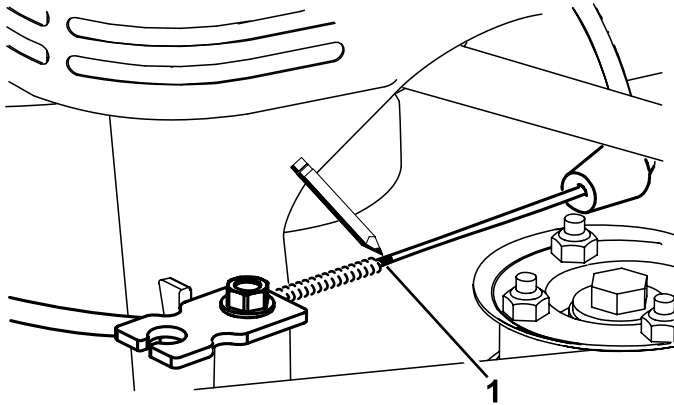
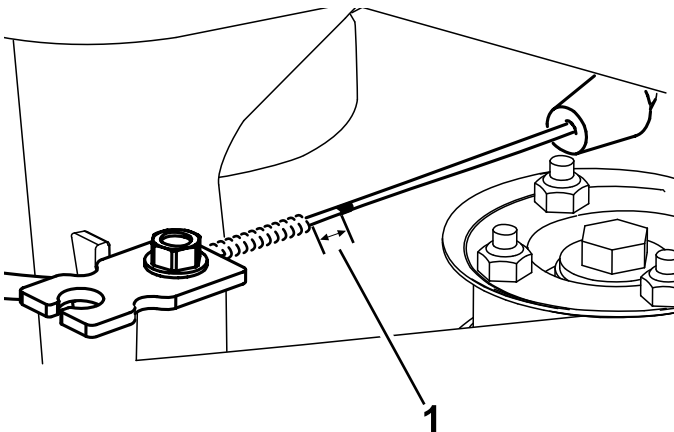

Figure 15
Figure 16
9. Mark the brake cable (Figure 15), then adjust the jacket until there is approximately 3 mm (1/8 inch) of slack (Figure 16).